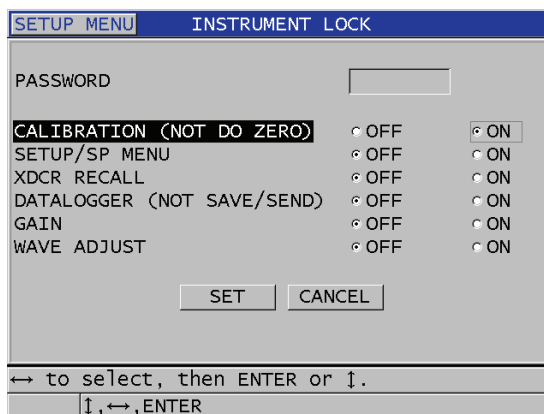

Figure 8-9 The INSTRUMENT LOCK screen
3. In the **INSTRUMENT LOCK** screen (see Figure 8-9 on page 115):